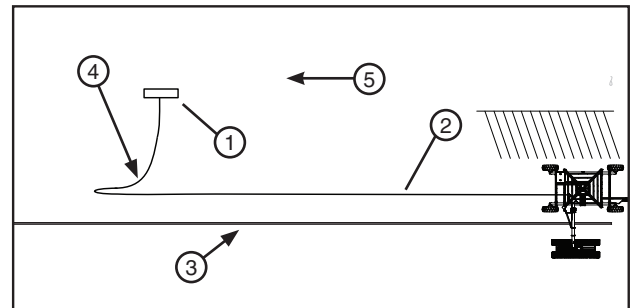

Figure 71-1 1. Power Pedestal
- (b) Position the electric cord far enough away from the hose, so that the hose will not drag over it. To prevent interference between the electric cord, cart tires and hose, bury the electric cord in the area where interference will occur or when applicable, position the electric cord over the top of hose. See figure 71-1.